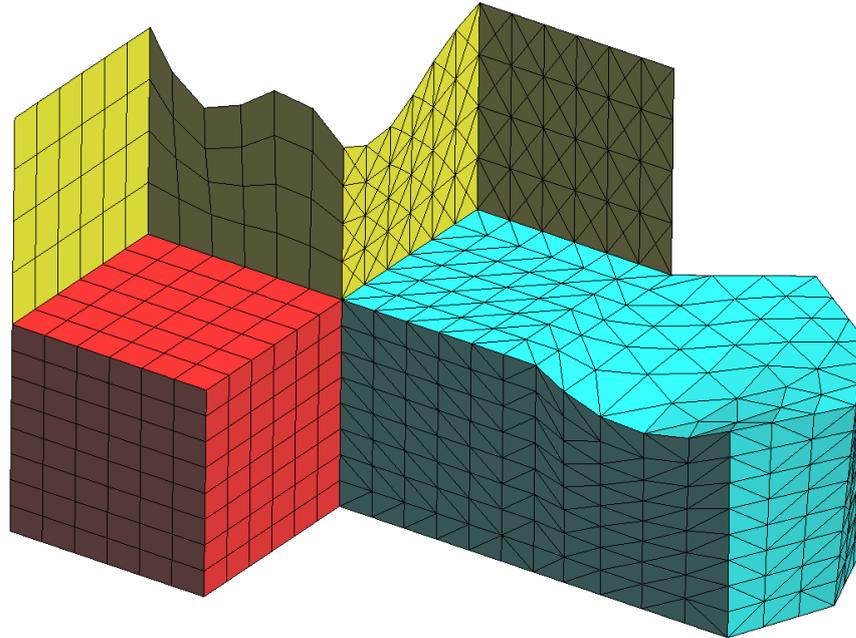

Figure 11. Semi-structured volume mesh of tetrahedra
- 7 Another window appears in which to enter the maximum element size. Leave the default value unaltered and click **OK**. The result is the mesh shown in Figure 11.